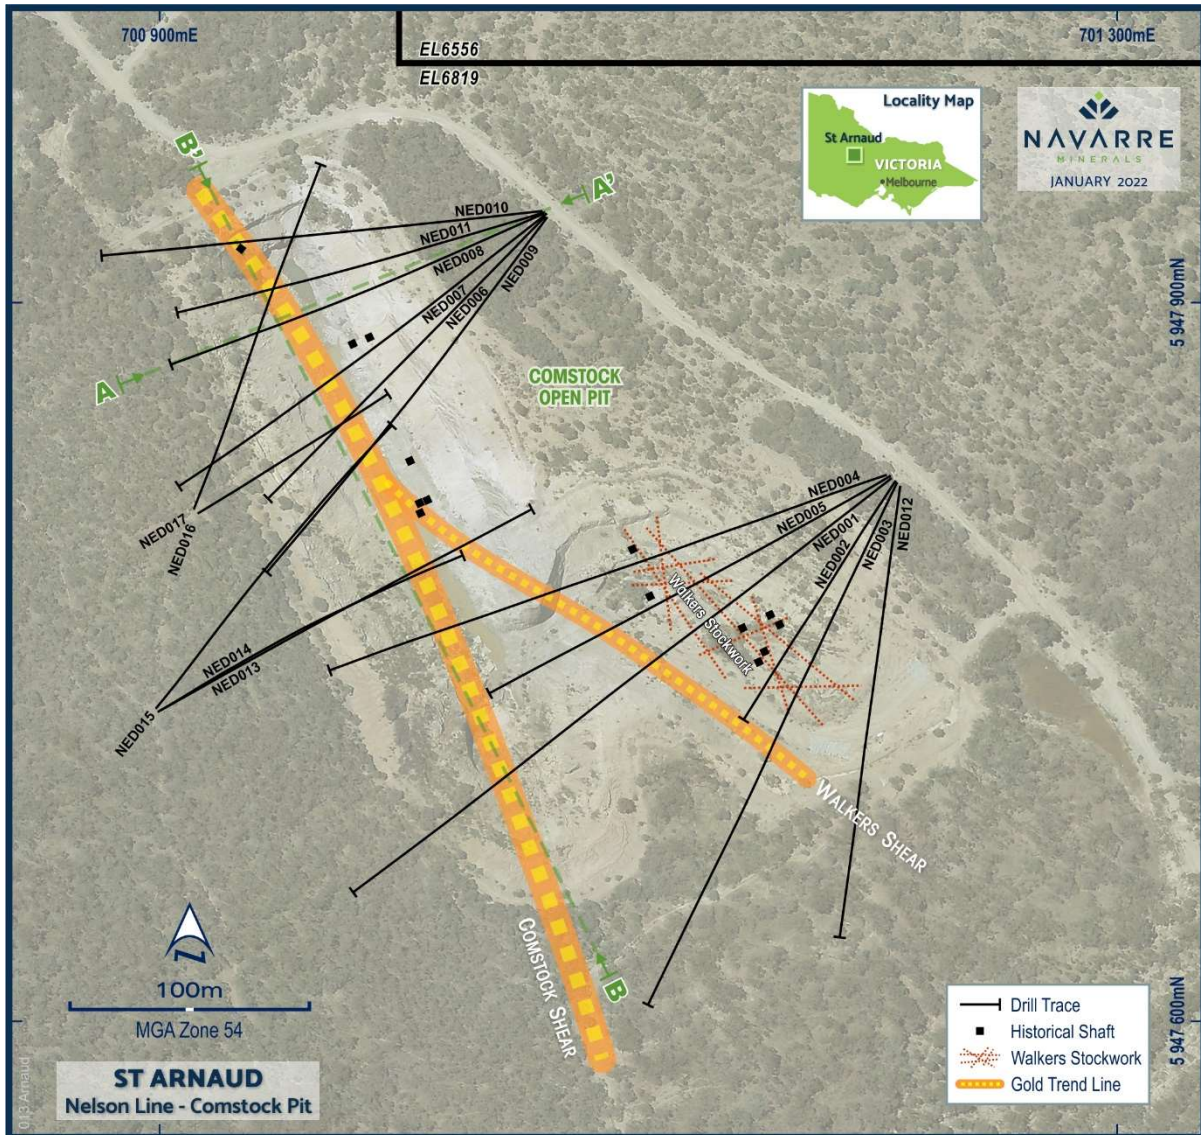

Figure 4: Comstock Pit – Location of diamond core drilling and simplified geology.
The drilling has intersected two main mineralised quartz-sulphide bearing structures containing broad zones of irregularly distributed low to medium grade gold, silver and arsenic assays and rare visible gold (Figure 4).
Navarre has received assay results for all seventeen holes of the diamond core drilling program. This drilling has intersected two main quartz reef structures (Comstock and Walkers), lesser mineralised shears and associated quartz stockwork zones (refer Figures 4 - 6):
- **Comstock Shear** – a variably 1 to 20-metre-wide northwest-trending mineralised quartz reef structure. Historically this reef was mined in the Comstock open pit over a strike extent of 330 metres. This is the most continuous structure intersected in the drilling program. The structure contains zones of strong sulphide mineralisation in the form of arsenopyrite, pyrite ± galena ± sphalerite (strong pathfinder elements in most Victorian gold deposits). This shear has been confirmed by drilling over a 260 metre strike extent and to approximately 200 metres depth. The structure remains open along strike and at depth (Figure 4).
Significant diamond core drilling intercepts from the Nelson Line include (see Tables 1 & 2; Figures 4 - 6):